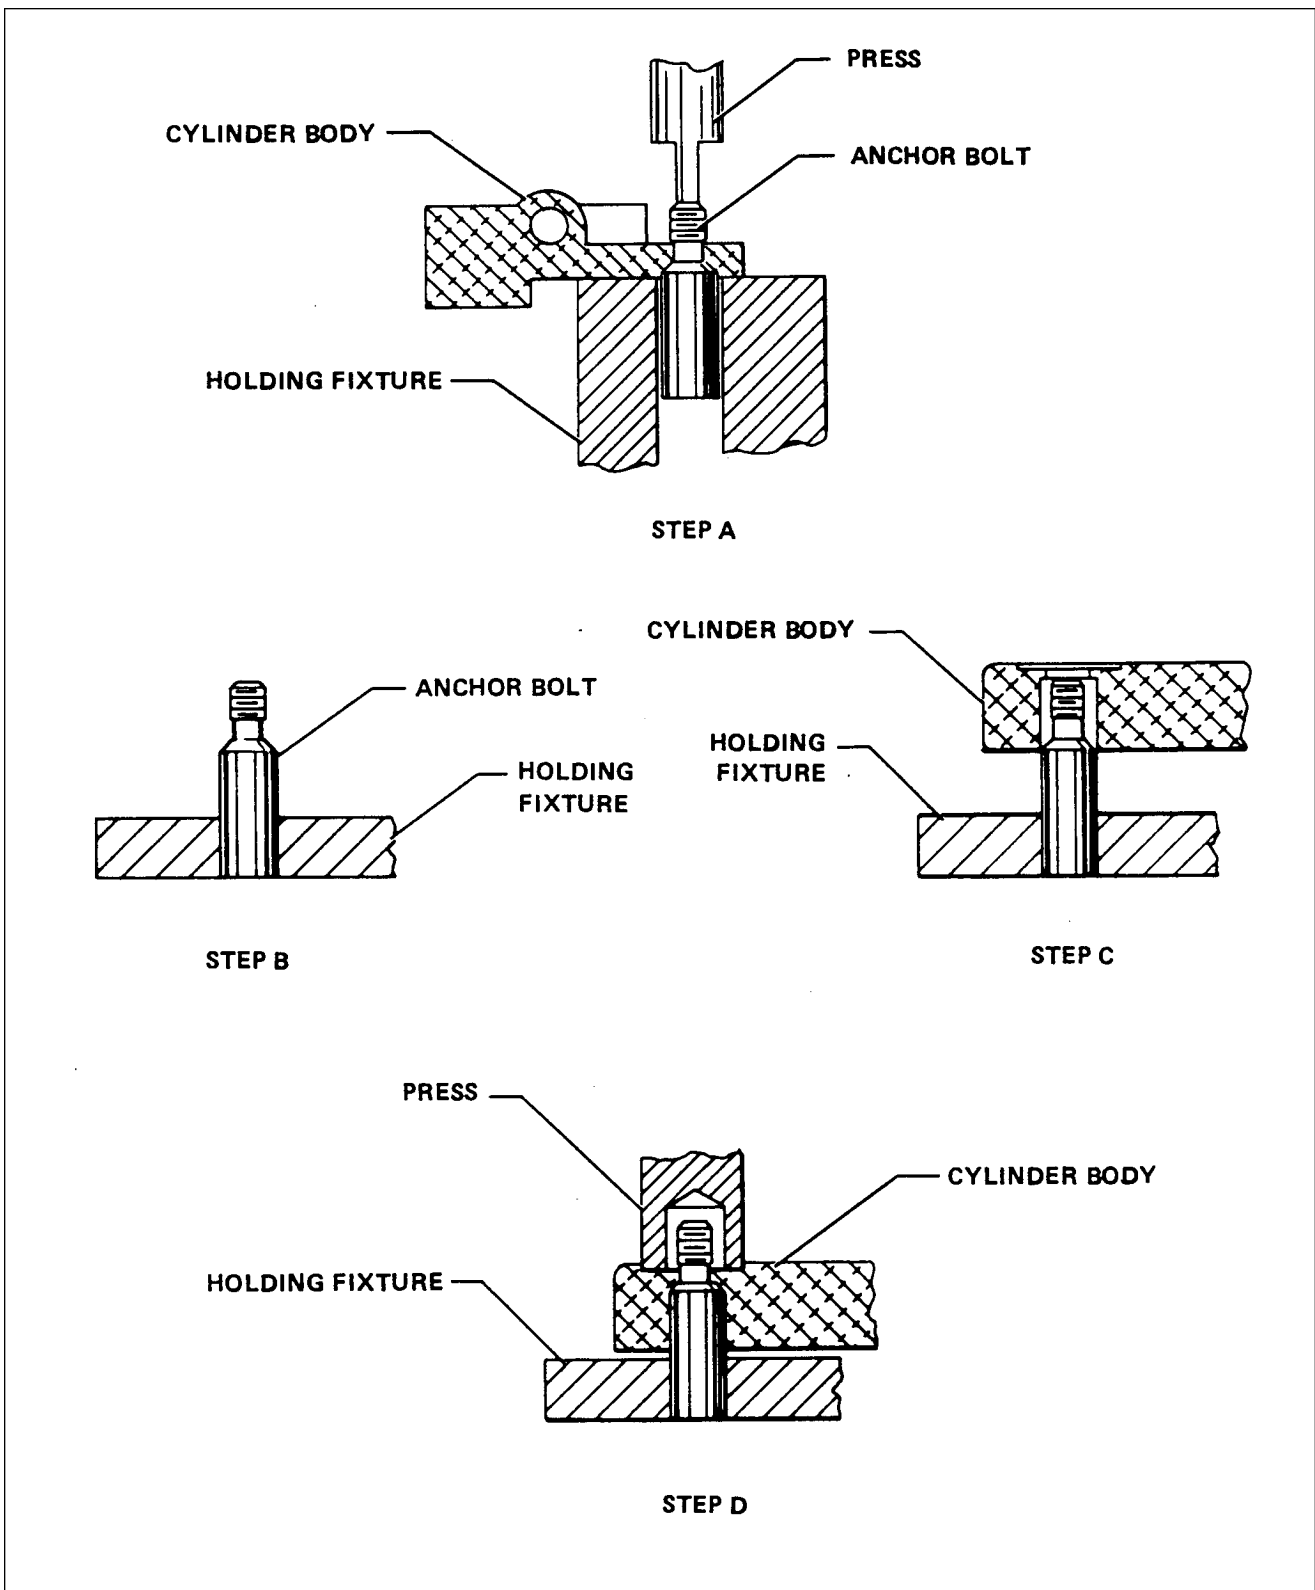

Figure 32-11. Removal and Installation of Anchor Bolts
- a. Position cylinder assembly on a holding fixture. (Refer to figure 32-11.)
- a. Support anchor bolt in a holding fixture. (Refer to figure 32-11, step A.)
- b. Align cylinder body over anchor bolt. (Refer to figure 32-11, step B.)
- c. Use a suitable arbor press and apply pressure on spot face directly over anchor bolt hole. (Refer to figure 32-11, step C.)